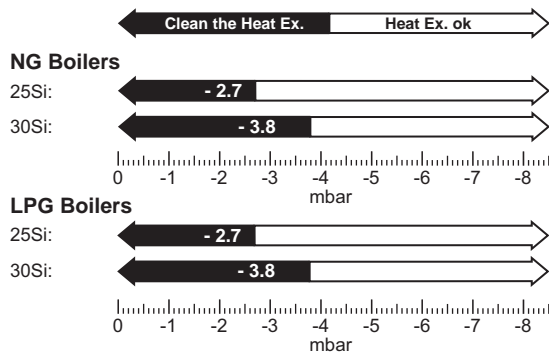

Fig. 68 Fan pressure readings
- ▶ The pressure will read negative, refer to the chart in figure 68 below.